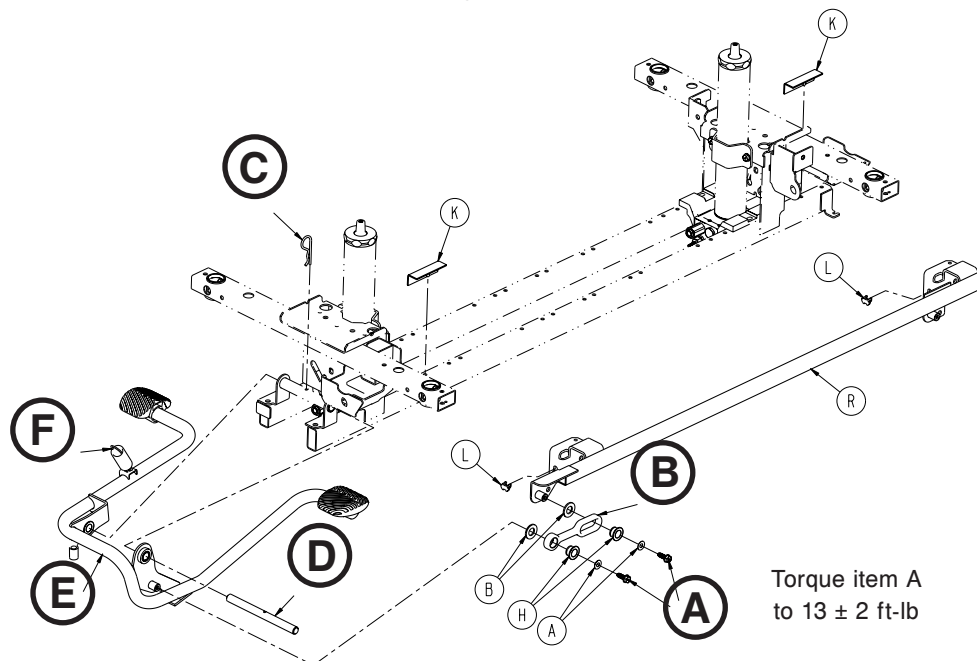

Figure 23
6. Using a 1/2" socket with a 3/8" drive extension and 3/8" drive ratchet, remove the hex washer head screw (A) that secures the pump pedal link (B) to the pump pedal (Figure 23).
7. Remove the hair pin cotter (C) from the pump pedal pivot pin (D) (Figure 23).
8. Remove the pump pedal return spring (F).
9. Remove the pump pedal pivot pin (D) from the base frame and pedal pivots (Figure 23).
10. Remove the side pump pedal assembly (E) (Figure 23).
**Note:** The side pump pedal assembly (E) will be loose and may fall when the pump pedal pivot pin is removed (Figure 23).